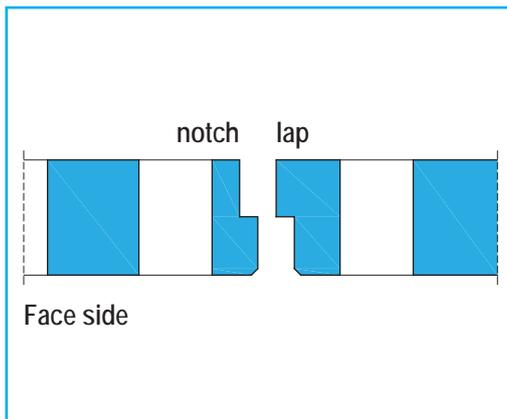

FIGURE 12 Linear Edge
- Adjust notch and lap edges (no compounds required). [Figure 12]